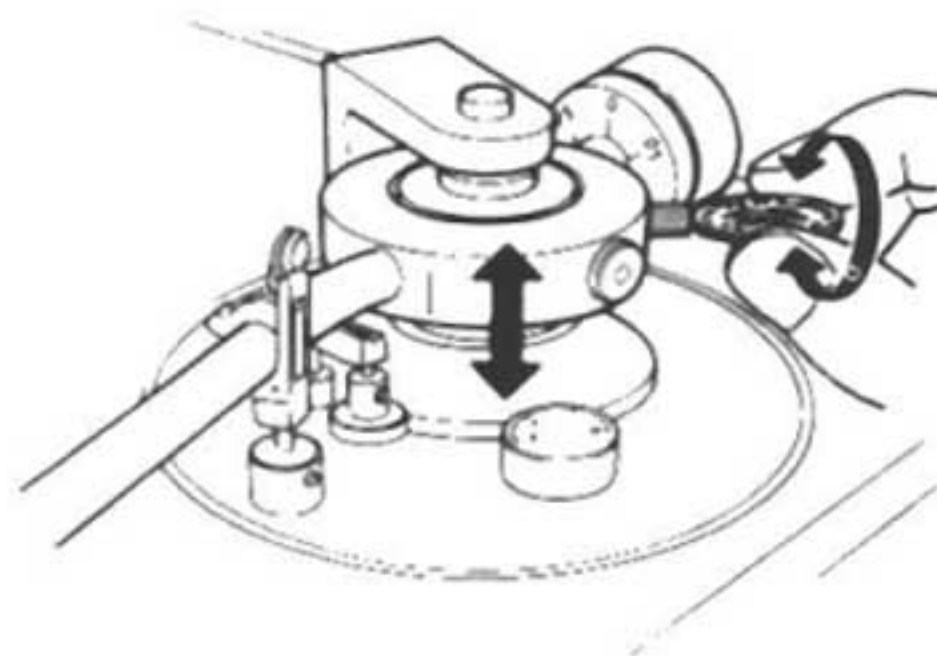

Fig. 16
2. Use one hand to support the tonearm, and the other hand to loosen the adjustment screw with the coin. Place the stylus on the record lightly not to damage, and adjust the tonearm so that it is parallel to the record on the platter and then tighten the adjustment screw (Fig. 16).